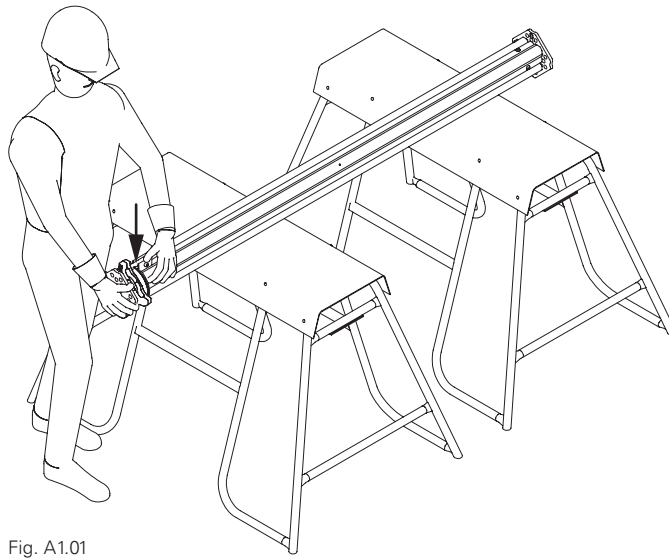

Fig. A1.01
Place the MULTIPROP MP (1) with retracted Inner Tube on an appropriately-positioned trestle/pallet. (Fig. A1.01)